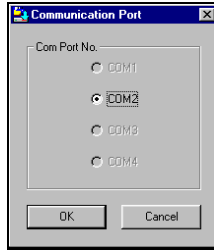

Figure 45 Com Port Dialog box
- To change the Com Port from the Options menu choose Com Port. The Com Port Dialog box appears. See Figure 45.